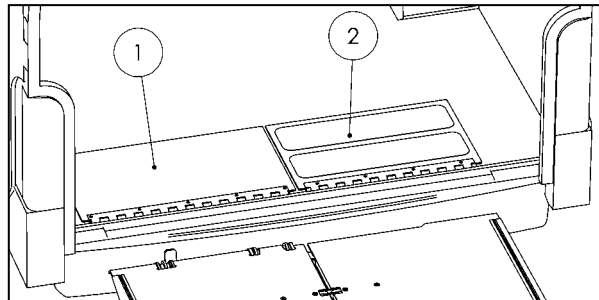

Figure 69
- Fasten the bridge plate with the non-skid coating (2) on the right side. The non-skid coating must face upward when the bridge plate is folded shut.
- Fasten the non-coated bridge plate (1) on the left side (see Fig. 69).